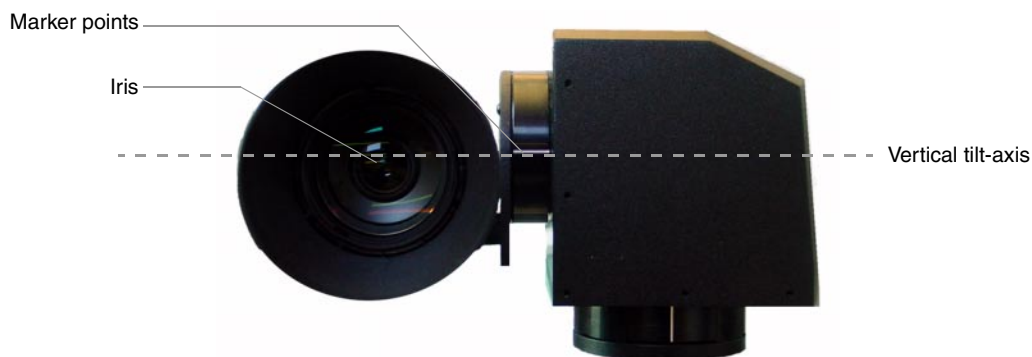

FIG. 9 Iris alignment with vertical tilt-axis
8. Take the entire camera/cradle assembly and align the lens with the Tilt Hub so that the vertical-axis intersects the center of the camera's iris, as shown in FIG. 9.